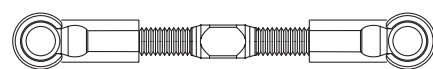

Figure 35B
- ❑ 1. Thread a Plastic Rod End (58) onto each end of a 1.250" Titanium Turnbuckle (84). Tighten both Rod Ends equally until the Tierod is the same length as the Tierod in Figure 35B. Make two of these Tie rod assemblies.